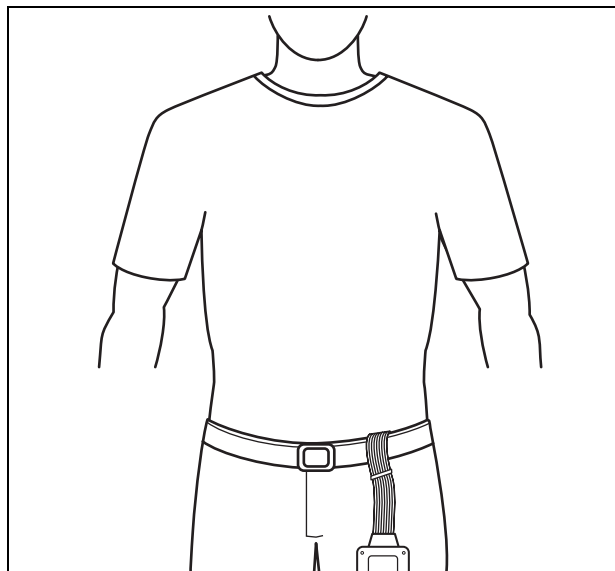

Figure 5.31
4. Have the patient get dressed, letting the antenna lead set protrude to the left of his/her abdomen (see Figure 5.31).